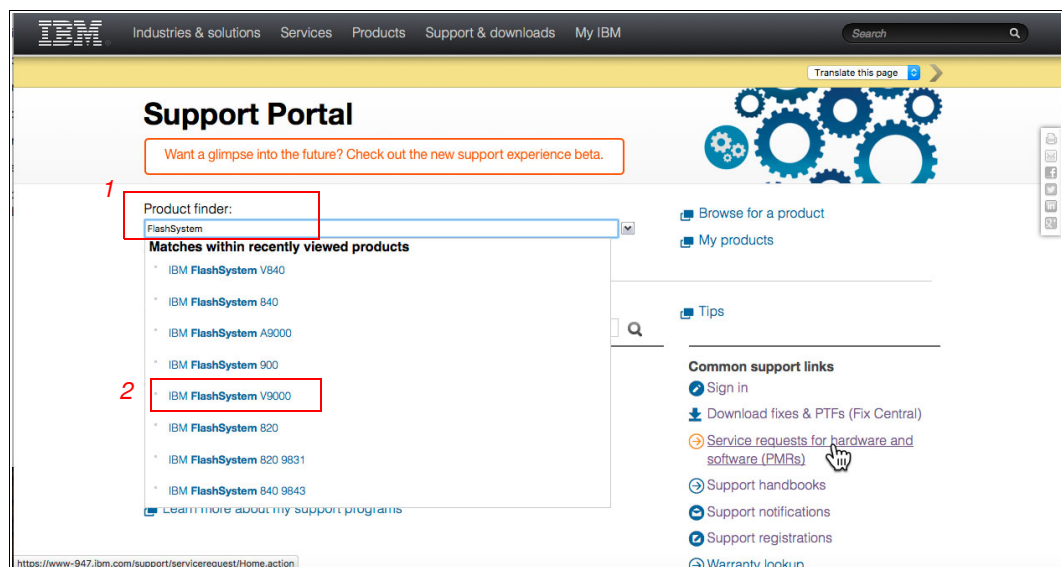

Figure 13-42 Support Portal
1. After signing in with your IBMid, a page opens to the Support Portal (Figure 13-42). In the Product finder field, start typing FlashSystem (1). Select **IBM FlashSystem V9000** from the list (2). The IBM FlashSystem V9000 specific information is displayed.